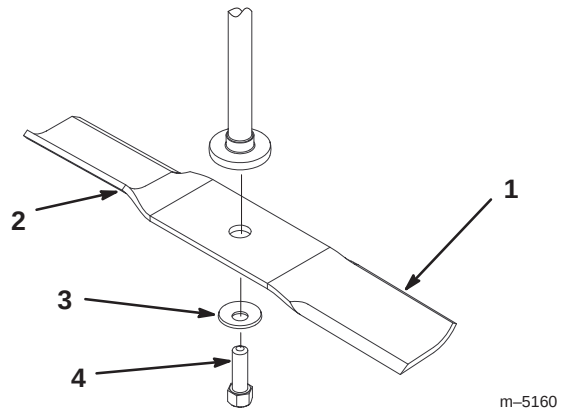
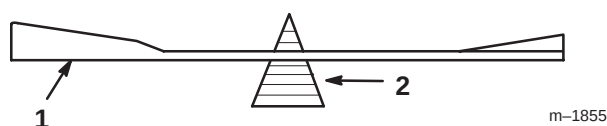

Figure 22
Figure 24
Hold the blade end using a rag or thickly-padded glove. Remove the blade bolt, curved washer, and blade from the spindle shaft (Fig. 22).
2. Check the balance of the blade by putting it on a blade balancer (Fig. 24). If the blade stays in a horizontal position, the blade is balanced and can be used. If the blade is not balanced, file some metal off the end of the sail area only (Fig. 22). Repeat this procedure until the blade is balanced.
1. Install the blade onto the spindle shaft (Fig. 22).
2. Install the curved washer (cupped side toward the blade) and blade bolt (Fig. 22). Torque the blade bolt to 35–65 ft.-lb. (47–88 N·m).